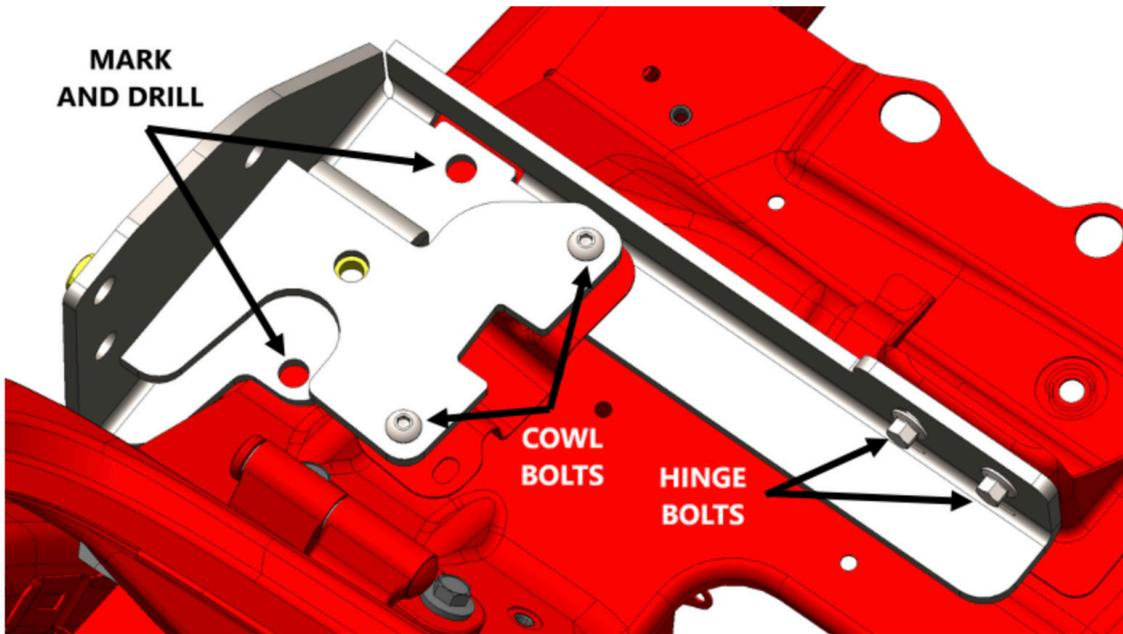
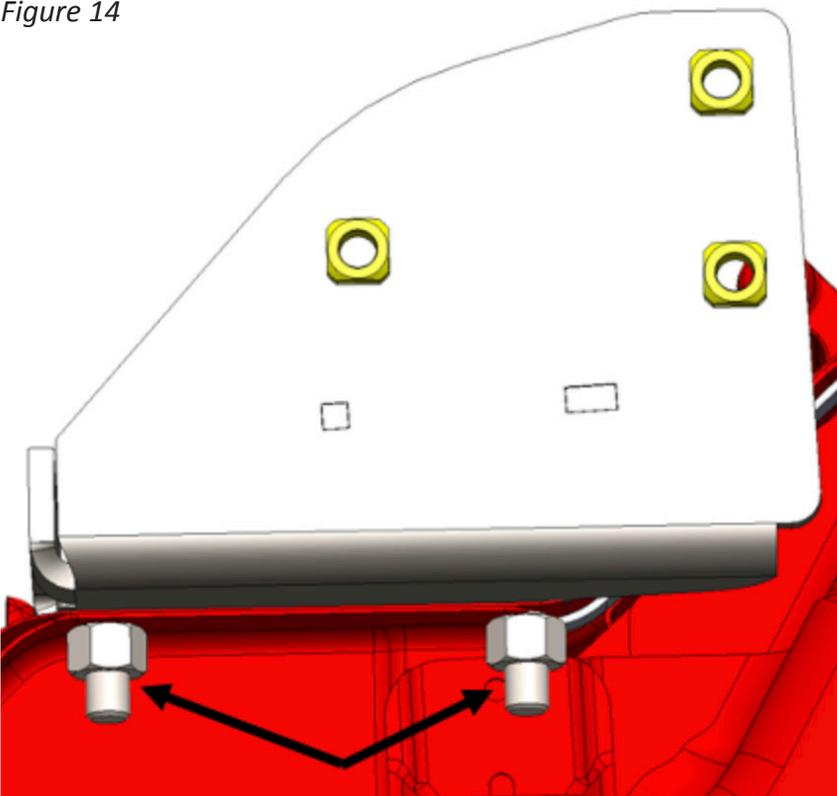

Figure 14
Figure 15
13. Install the vicowl mounts on the driver and passenger side of the JT. Use the OEM cowl and hood hinge bolts to attach the bracket in place, mark the two lower pinch seam holes for drilling (Figure 14). Remove the brackets and use a 1/2" drill bit to drill out the marked mounting holes. Reinstall the bracket using OEM bolts along with two (2) 7/16" hex head bolts with nylock hex nuts (Figure 15). Install the OEM cowl cover and fasten in place using the cowl bolts. Figure 14-15.